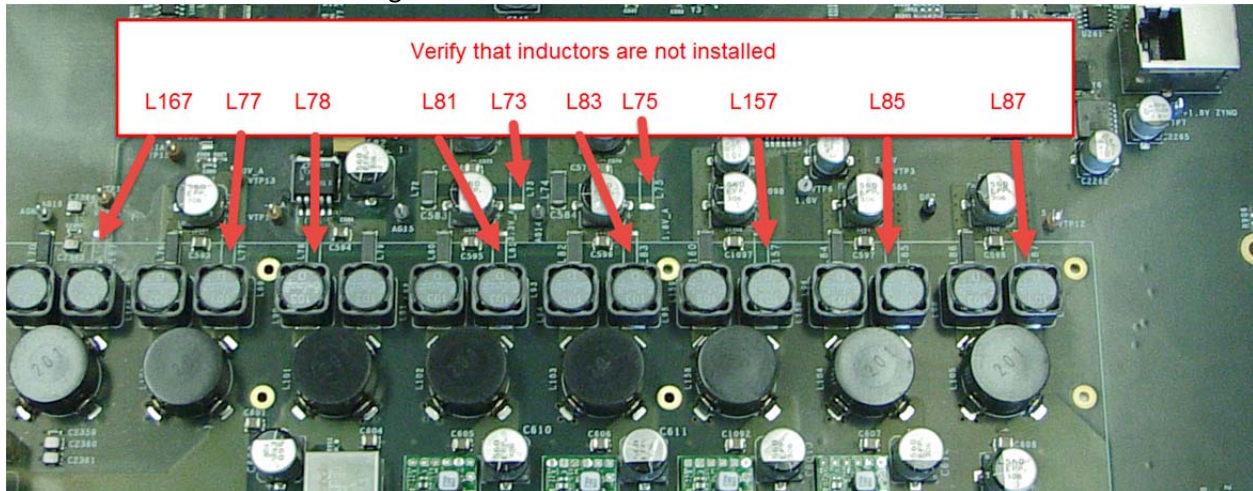

Figure 3 - Inductor components that should NOT be installed prior to initial testing.
- ___ DONE e. Verify that components **L167, L77, L78, L81, L73, L83, L75, L157, L85 and L87** are all ***not installed***. This ensures that all power supplies are disconnected. See Figure 3.
DONE d. Measure the voltages generated by the internal supplies of the SSP and record into table below. Each voltage measurement is made with the red lead of the voltmeter touching the lower pad (that is, pad closest to round coil) of the un-installed inductors shown in Figure 3.
Upon successful completion of the previous sections the inductors that isolate the power supplies from the rest of the circuit board may be installed. Disconnect the board from all power sources prior to installing components. Refer to Figure 3 for positions of components.